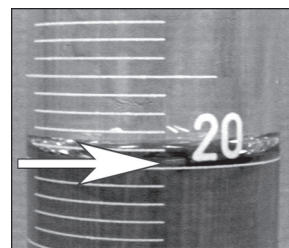

Figure R7.7 | Graduated Cylinder Meniscus
- If glass—read the value at the bottom of the meniscus (the water line on Figure R7.7 indicated by the arrow)—the concave surface at the top of the liquid. For example, the volume measured by this graduated cylinder would be 20 ml.